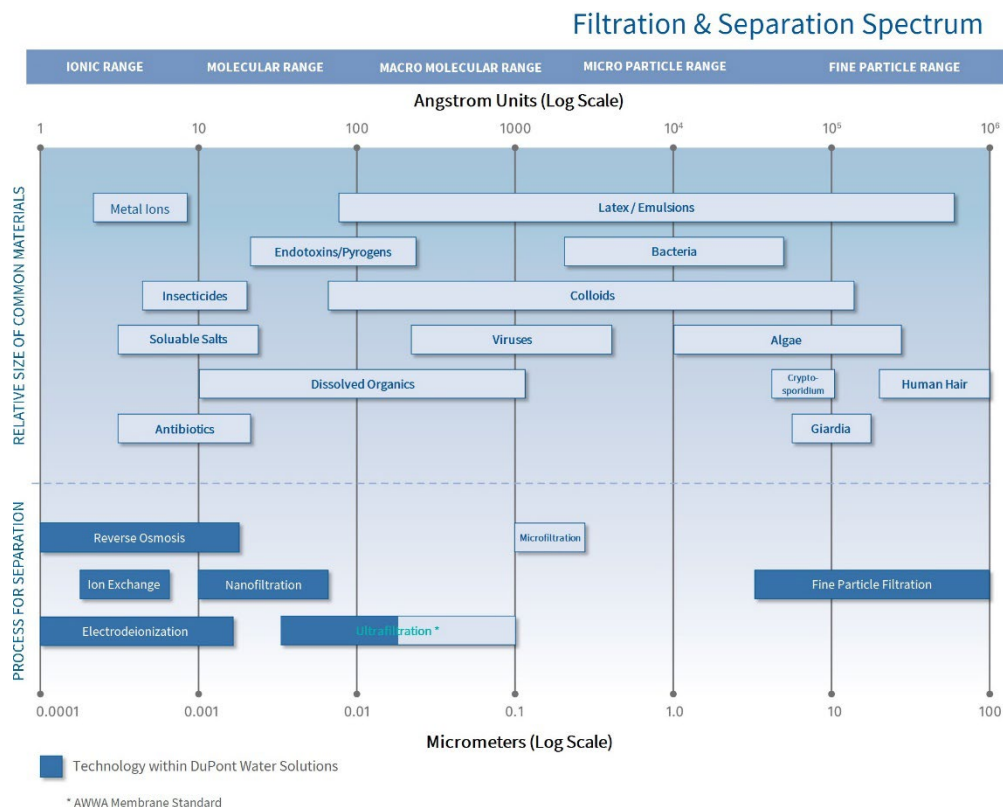

Figure 1 Material Size and Membrane Process Guide
UF membranes reject solutes ranging in size from 0.005 microns and larger. Figure 1 provides a guide to the relationship between common material sizes, separation processes, and pore size measurements. The UF membrane process separates molecules in solution based on size. The pore size and molecular weight cut-off (MWCO) are often used to characterize a membrane. The pore size is the nominal diameter of the openings or micropores in the membrane expressed in micron (micron meters μm). The MWCO is the molecular mass or weight of a solute that rejects greater than 90 percent. The unit of measurement for MWCO is the Dalton (D).